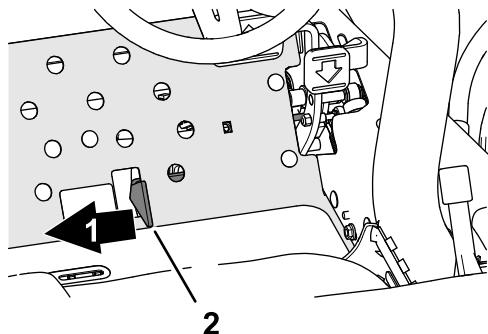

Figure 39
- Move the mow/transport slide right, to the Mow position (Figure 39).
- Move the mow/transport slide to the right to the Mow position (Figure 39).